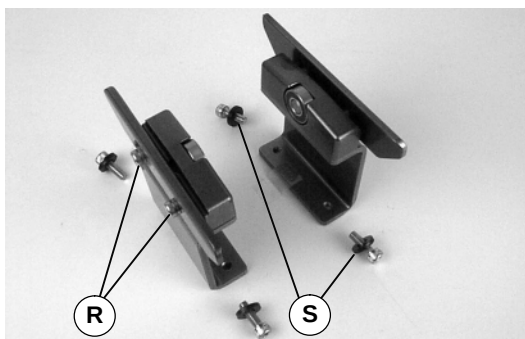

Figure 9
2. Loosen screws (R of Figure 9) and remove screws and washers (S).